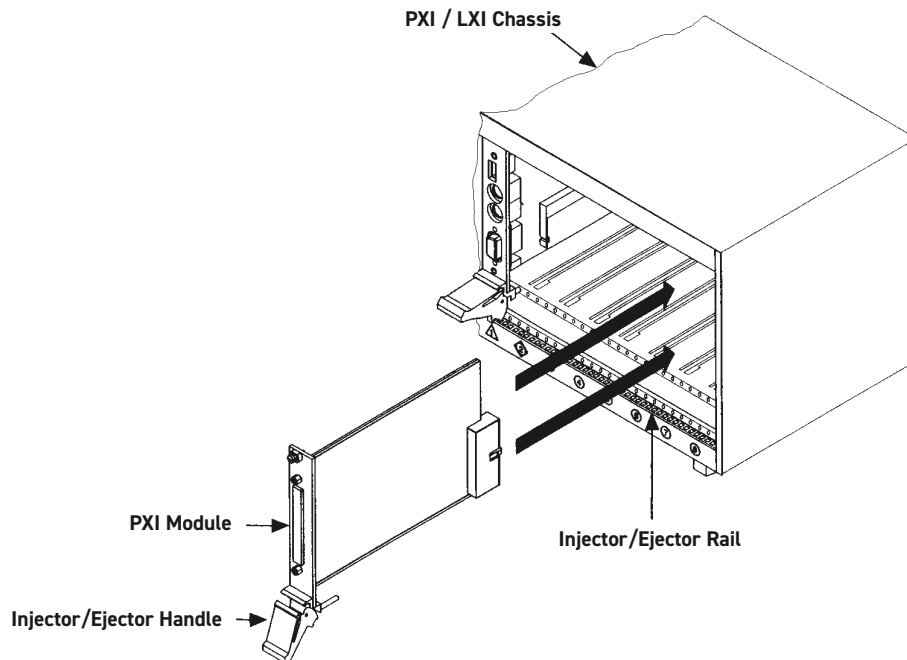

Figure 3.4 - Example Installation of a PXI Module into a PXI/cPCI/LXI Chassis
5. Hold the handle whilst slowly sliding the module into the card guides until the handle catches on the injector/ejector rail (refer to Figure 3.4).